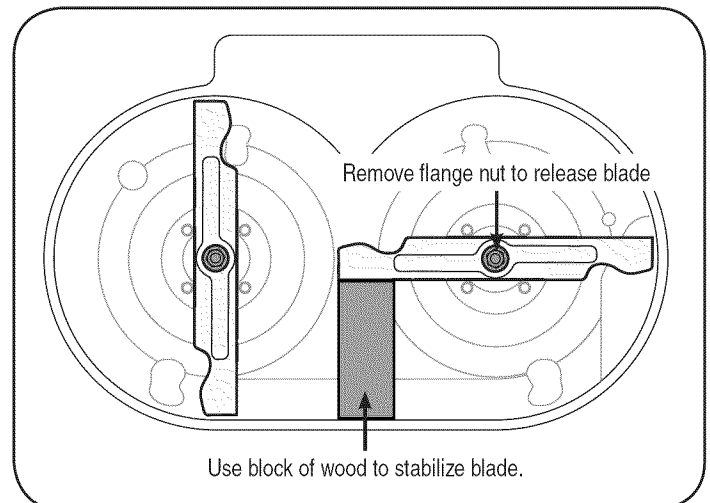

Figure 20
2. Place a 2x4 block of wood approximately 8.5" long between the deck housing and the cutting blade to act as a stabilizer, Figure 20.
3. Remove the hex flange nut that secures the blade to the spindle assembly, Figure 20.